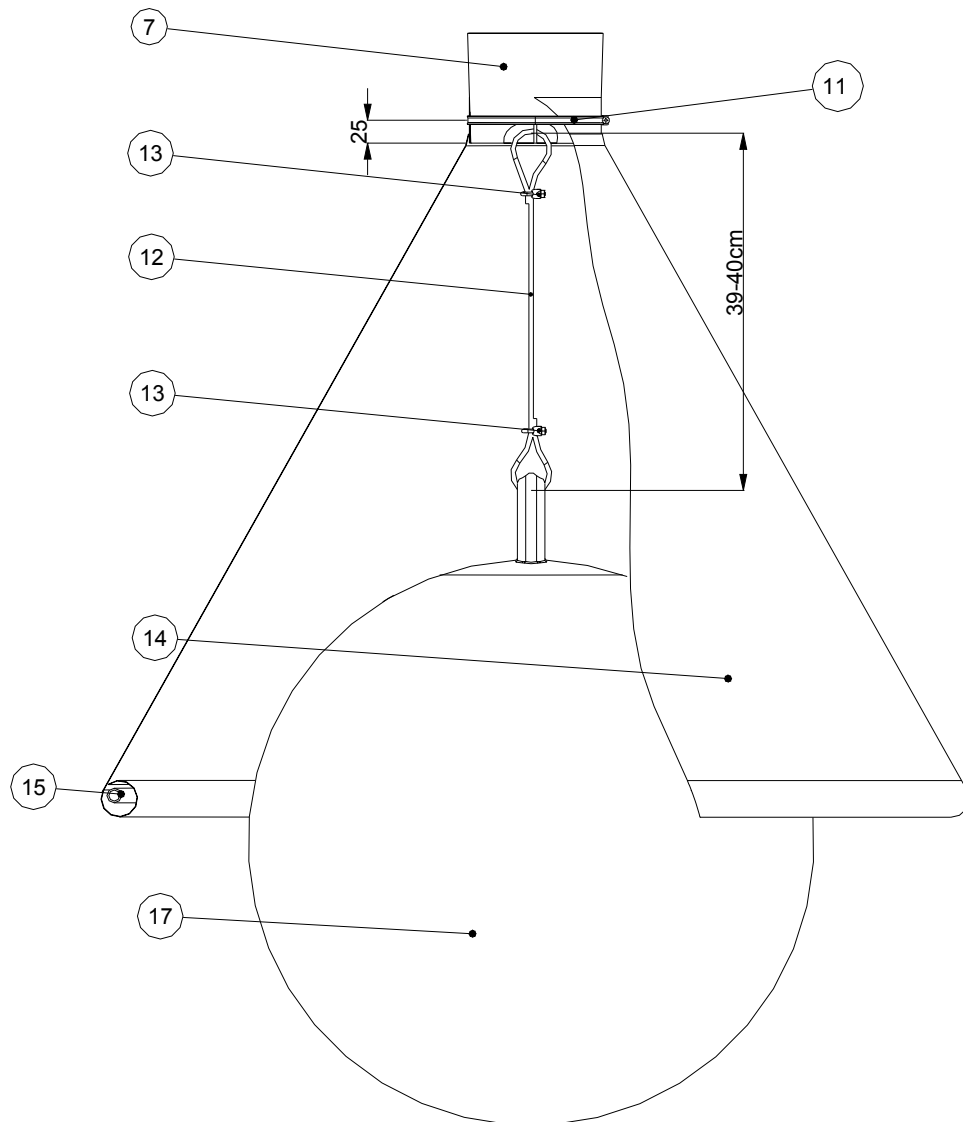

Fig 5: Inflating the ball
1. Inflate the ball (17) using a compressed air unit or place the adapter (20) in the inflation opening of the ball and use a hand pump. Pull out the ball valve (21) using the adapter to inflate the ball initially. See fig. 5. The diameter of the ball must be approx. 60cm (circumference of approx. 1900cm)